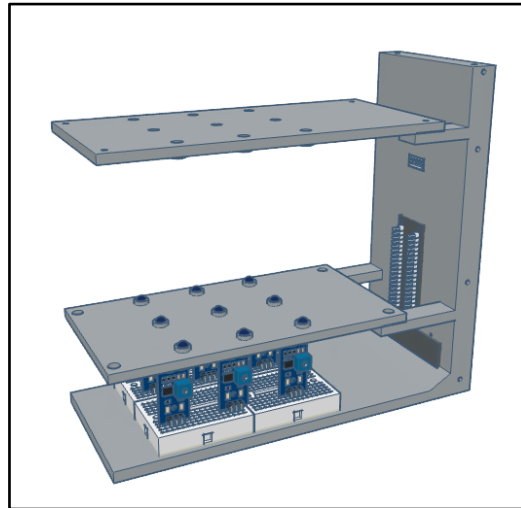

Figure 20. Attaching part P3.
- a. Attach part P3 with 2 x 6mm-long M3 screws (**Fig. 20**). **P3 should be orientated with the raised LED guides (i.e. the bumps at each of the LED holes) facing down.*